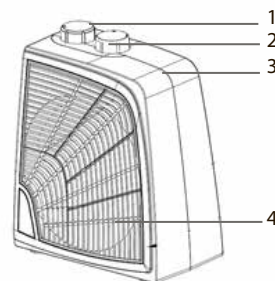

Fig. 1 **TFH S20QSS**
5. Appearance and components (fig.1, 2, 3)